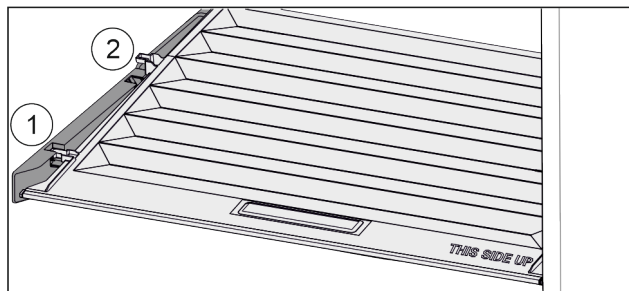

Fig. 170
- ▶ Pull the lid up at the front to the opening in the retaining parts Fig. 170 (1).
- ▶ Lift from the back and pull it up and out Fig. 170 (2).